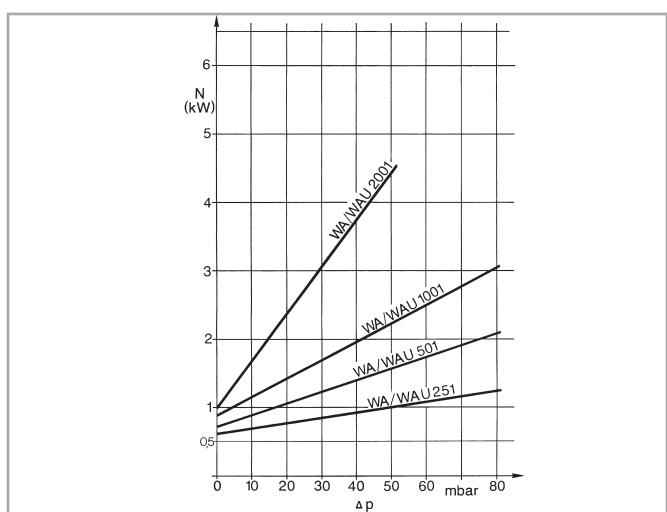

Fig. 1.7 Power consumption of the RUVAC WA/WAU
- the pressure difference between the inlet and the discharge flange (see fig. 1.7)